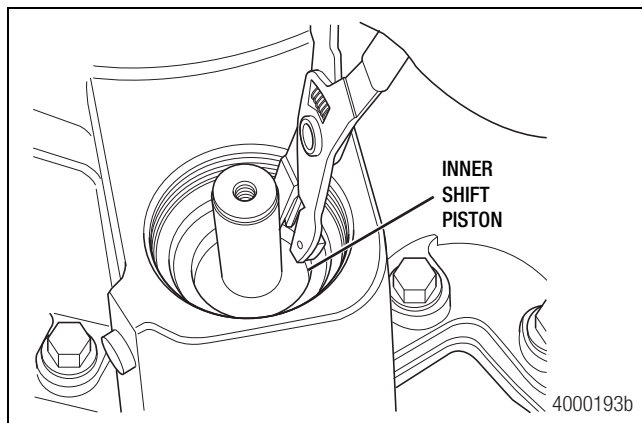

Figure 7.32
2. Install o-rings onto the inside diameter and outside diameter of the inner piston. Install the inner shift piston and snap ring onto the shift shaft. Figure 7.32.